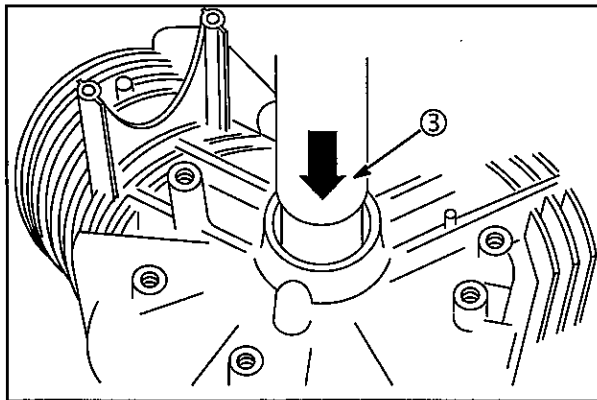

Fig. 11
3. Press in new bearing to correct depth with Bushing Driver #19349 (3), **Fig. 11**.